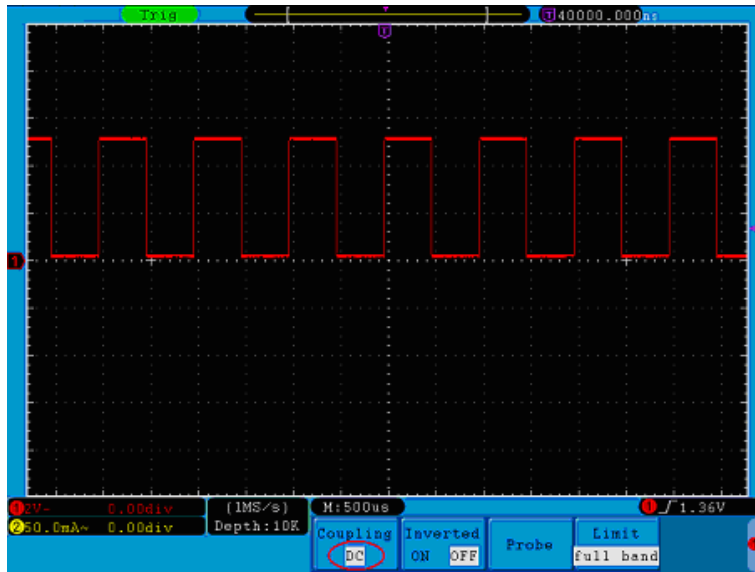

Figure 16. DC Coupling Oscillogram.
- 3 Press the **F1** button to select the Coupling item as "**DC**". Both DC and AC components of the signal are passed. The waveforms are shown as **Figure 16**.